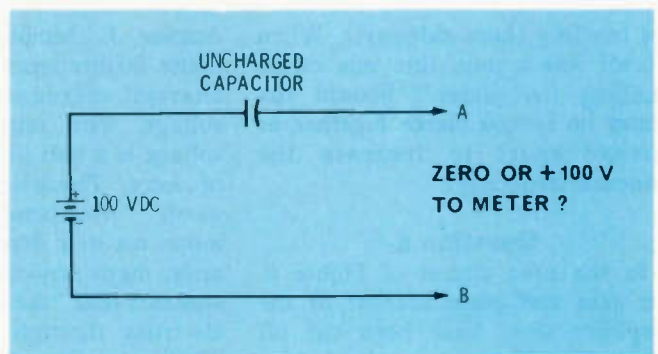

Figure 3
The next question brought me more "hate" mail than any other part of the CET test. An uncharged capacitor is connected to a battery, as shown in Figure 3. **What is the voltage between terminals A and B?** To make it easy, I gave only two possible answers. The voltage either is 100 volts, or it is zero volts.
Figure 3 (A) Signals from both the primary and secondary of the AM-detector IF transformer are combined, so the base voltage of Q1 becomes properly forward biased only at the center of the carrier. (B) These are the response waveforms of the IF primary and secondary, which are combined to make a positive signal only at the center of the station's carrier.